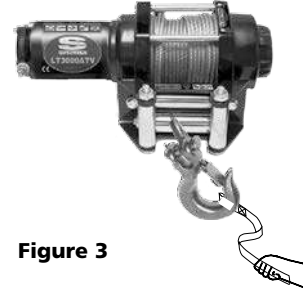

Figure 3
8. KEEP CLEAR OF WINCH, TAUT WIRE ROPE AND HOOK WHEN OPERATING WINCH. Never put your finger through the hook. If your finger should become trapped in the hook, you could lose your finger. ALWAYS USE THE HANDSAVER when guiding the wire rope in or out. See Figure 3.